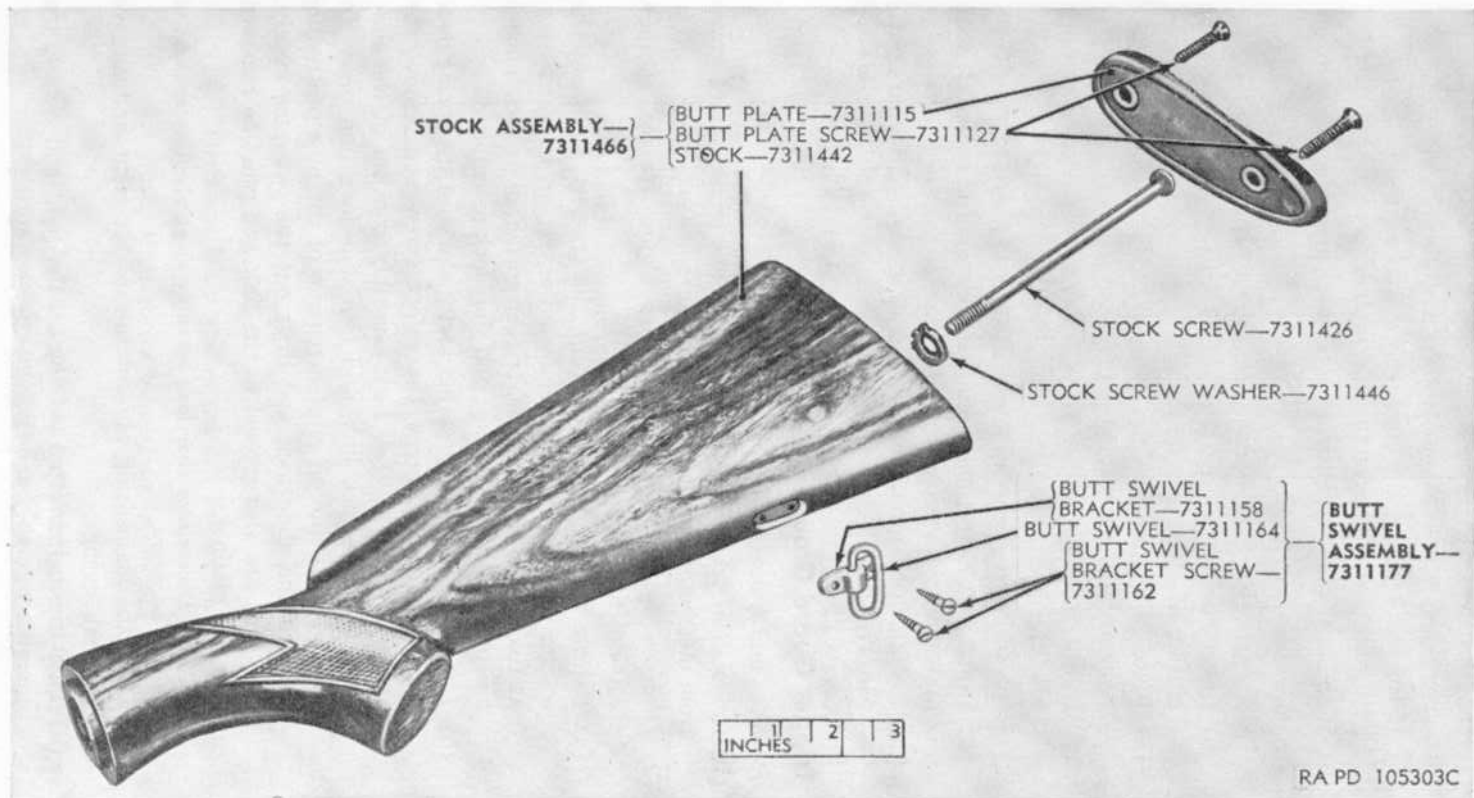

Figure 44. Stock group for Stevens shotgun M620A—exploded view.
- (2) *Stock group for Stevens shotgun M620A* (fig. 44).
(2) *Stock group for Stevens shotgun M620A (fig. 44).*